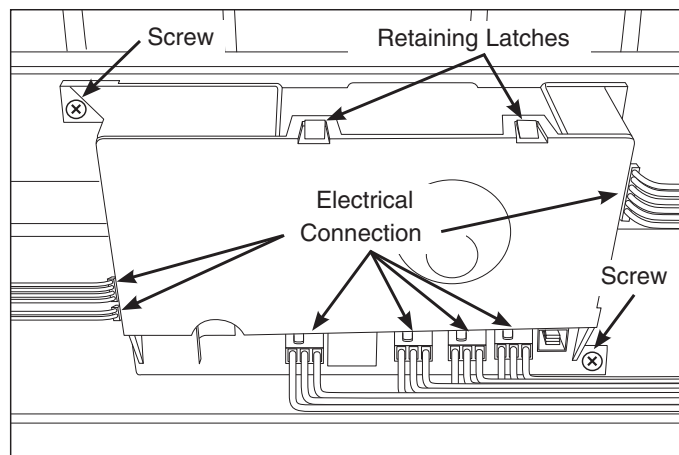

Figure 4-20.
2. Using a #2 square bit screwdriver, extract the two screws securing the control assembly to the mounting bracket. (See Figure 4-20)